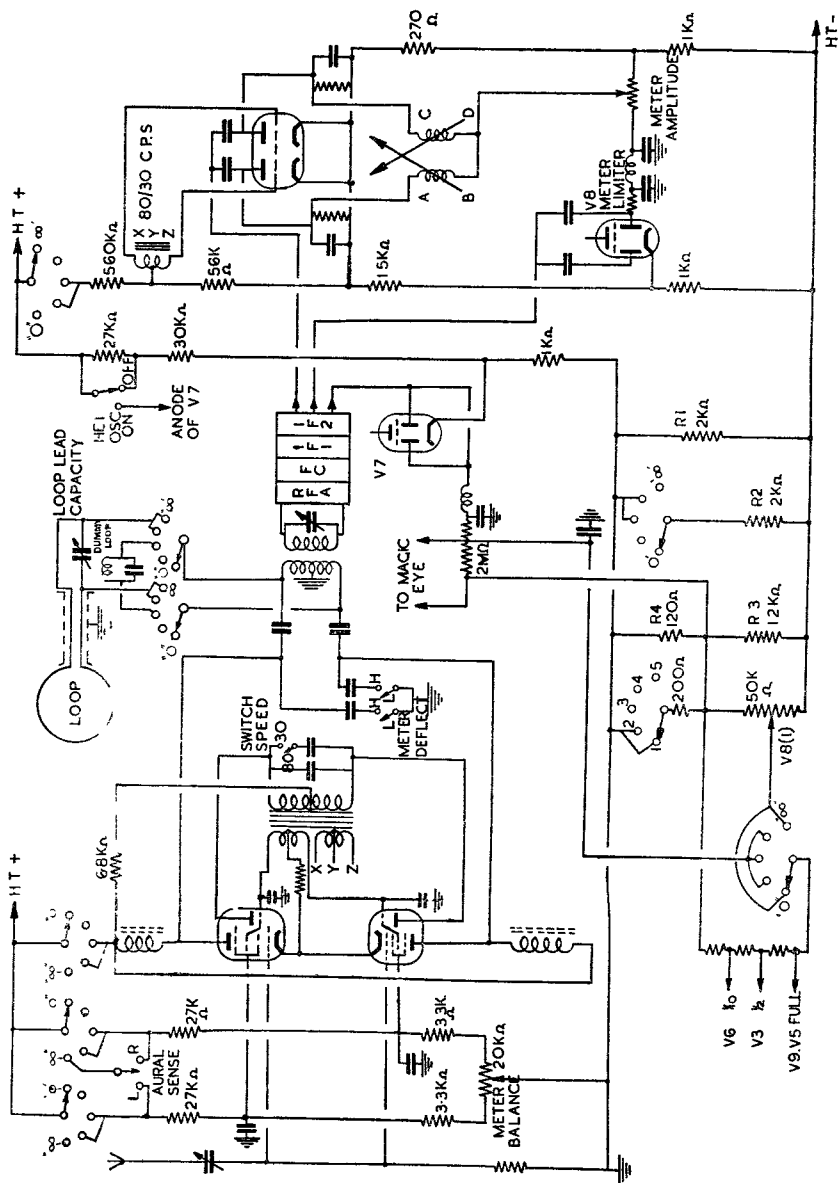

FIG. 87.—D.F. CIRCUIT FOR VISUAL INDICATOR
(a) "Switched heart" D/F is used for visual indication. The principle is as follows:—Pick-up in the fixed aerial is the same irrespective of the direction or the position of the station being received, but with the loop it will vary according to the relative positions of the station and the loop. Consider fig. 87 and imagine the loop in two positions with respect to a station on which a bearing is being taken.
- (b) Fig. 87 shows the D/F circuits of R.1155. Two V.R.99As are used to switch the fixed aerial at 30 or 80 c.p.s. (30 cycles for R/T and